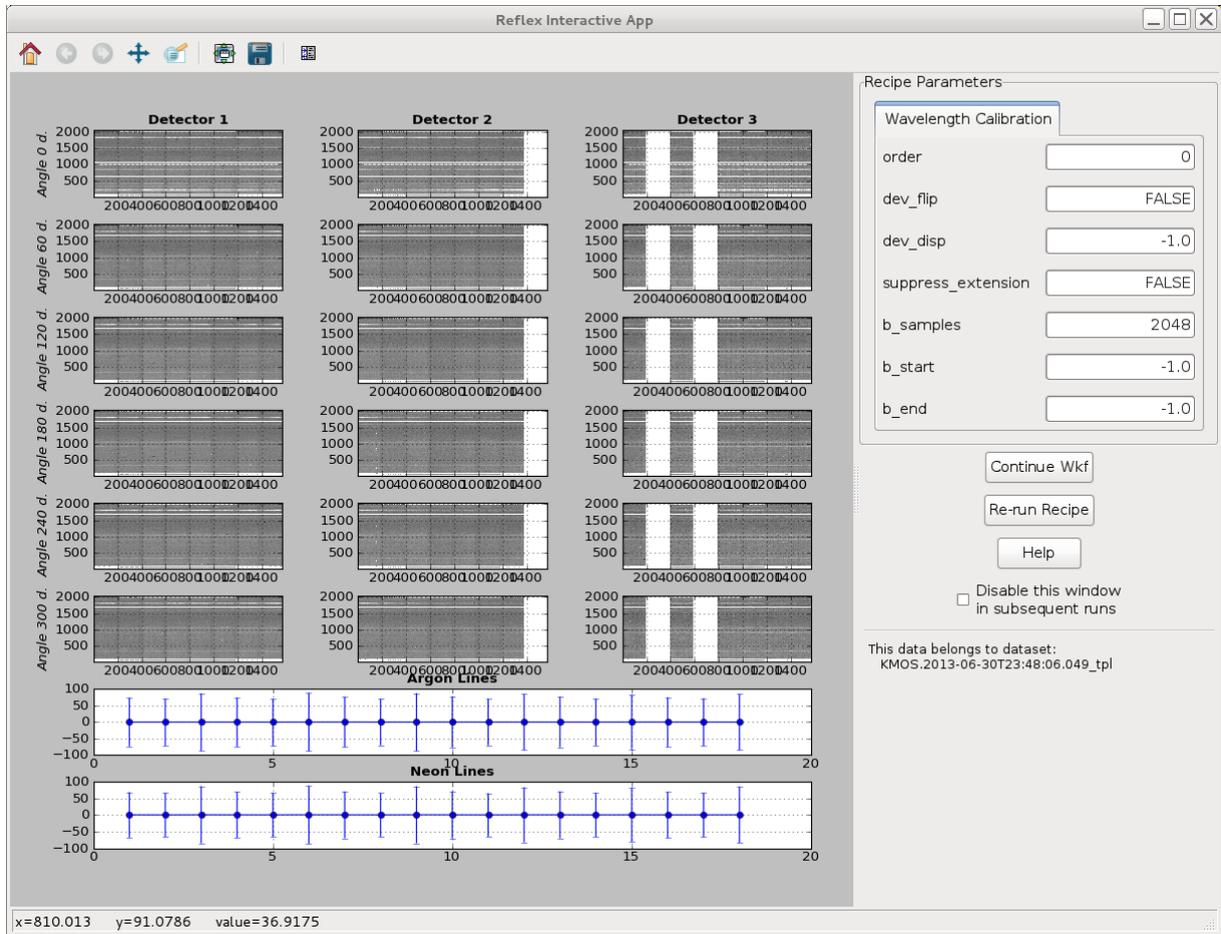

Figure 9.1: The interactive window for the Wavelength Calibration actor for the KMOS tutorial data set.
3. `Wavelength Calibration`: Figure 9.1 shows interactive window that will pop-up at the end of the execution of the `kmo_wave_cal` pipeline routine. The image panels at the top of the window show the reconstructed arc frames for each of the three detectors, at each of the six rotator angles (0, 60, 120, 180, 240, and 300 degrees). For each of these 18 frames, the relative average offset of the reconstructed arc lines are plotted in units of km/s for each of the Argon and Neon arc lines (bottom two plots).